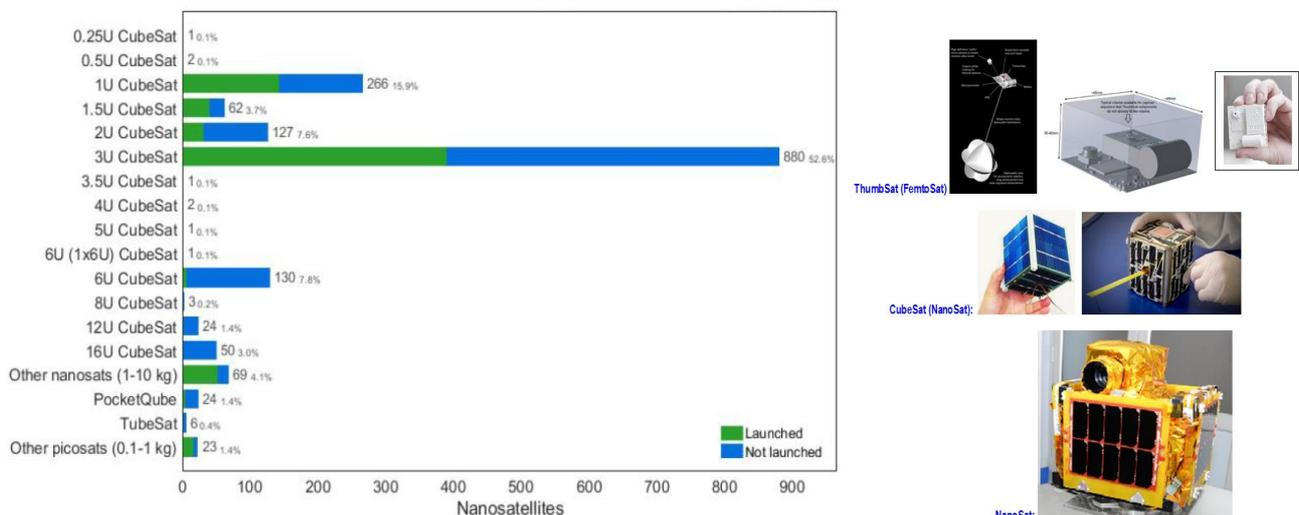

Figure 1. Nanosatellites by type
A CubeSat is a cubic-shaped satellite identified by the number of units. One unit, more commonly known as 1U, is a cube with a volume equivalent to one litre and a side-length of 10 cm. By merging a few cubes on top of each other, the variety of sizes increases (1U, 2U, 3U, 6U...). Satellites can be categorised by their mass. The one with a mass below 1 kg is a picosatellite, which is very often a 1U CubeSat (by default the mass of each unit should not exceed 1.33 kg), or a PocketQube (0.25U). The majority of the launched or built CubeSats are nanosatellites with a mass of 1-10 kg, shown in Figure 1, as per March 14th 2017 [3].
Majority of 3U CubeSats mentioned in Figure 1 below have a nominal mass limitation equivalent to 4 kg, however, depending on the deployer (mechanical interface between the CubeSat and the launch vehicle (LV)), the mass can be higher. As in the case of ISIPOD, the maximum allowable mass for 3U is 6 kg [4]. A spacecraft with a mass range from 10 to 100 kg is a microsatellite, below 1 kg a picosatellite, and below 0.1 kg a femtosatellite. The smallest publicly-known femtosatellite is called a KickSat, which is a 3.5 by 3.5 cm single printed circuit board (PCB) with a microprocessor, gyroscope, magnetometer, radio with antennas, and solar cells [5].